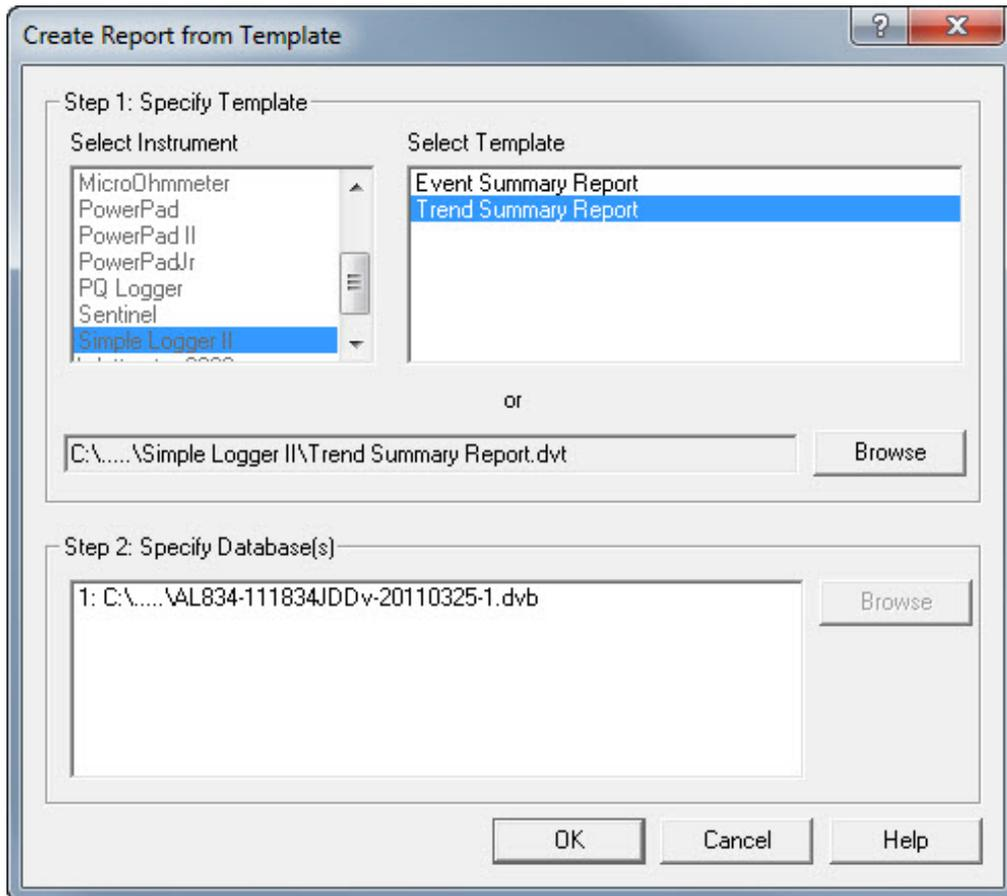

Figure 2-12
5. If you answer "YES", the main window of DataView® is moved to the background and its place is taken by a new window to help in defining new traces from predefined templates (see figure 2-12 below);